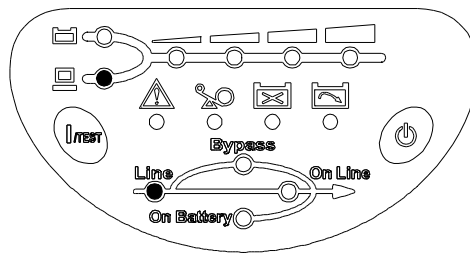

Fig 3-1 Stand-By Mode
- After that, the fan (in rear panel) will run and all LEDs will light for about 2-3 sec. Meanwhile the CPU inside the UPS setups the initial parameters. User also can check whether all LEDs are normal or not. The UPS is set in “STANDBY mode” initially, after a ‘bee’ is heard, the load LED lights on and the line LED shows AC utility status. Shown as fig 3-1.
The UPS will keep charging when UPS is in “STANDBY mode” even though the 0 button has been pressed. To fully turn off the UPS, it is advised to unplug the power cord. Refer to fig 3-1.